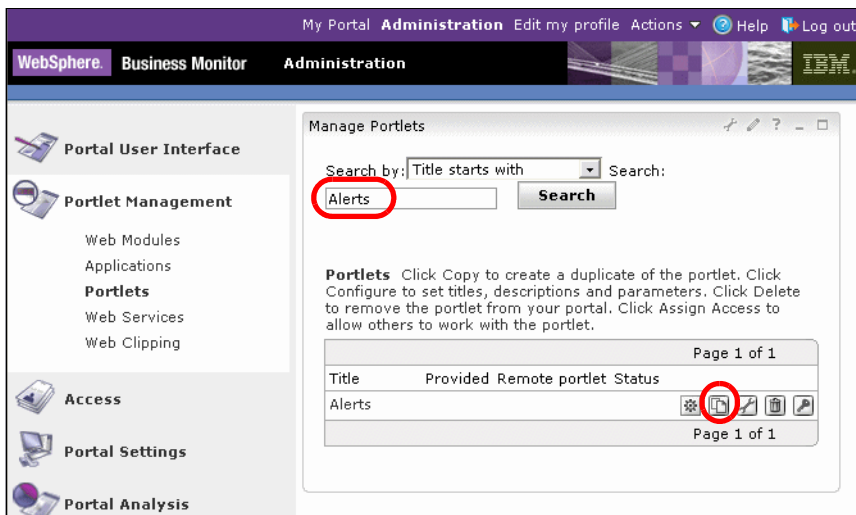

Figure 14-59 Portlet search result
- ▶ Select the copy portlet icon  (Figure 14-59).